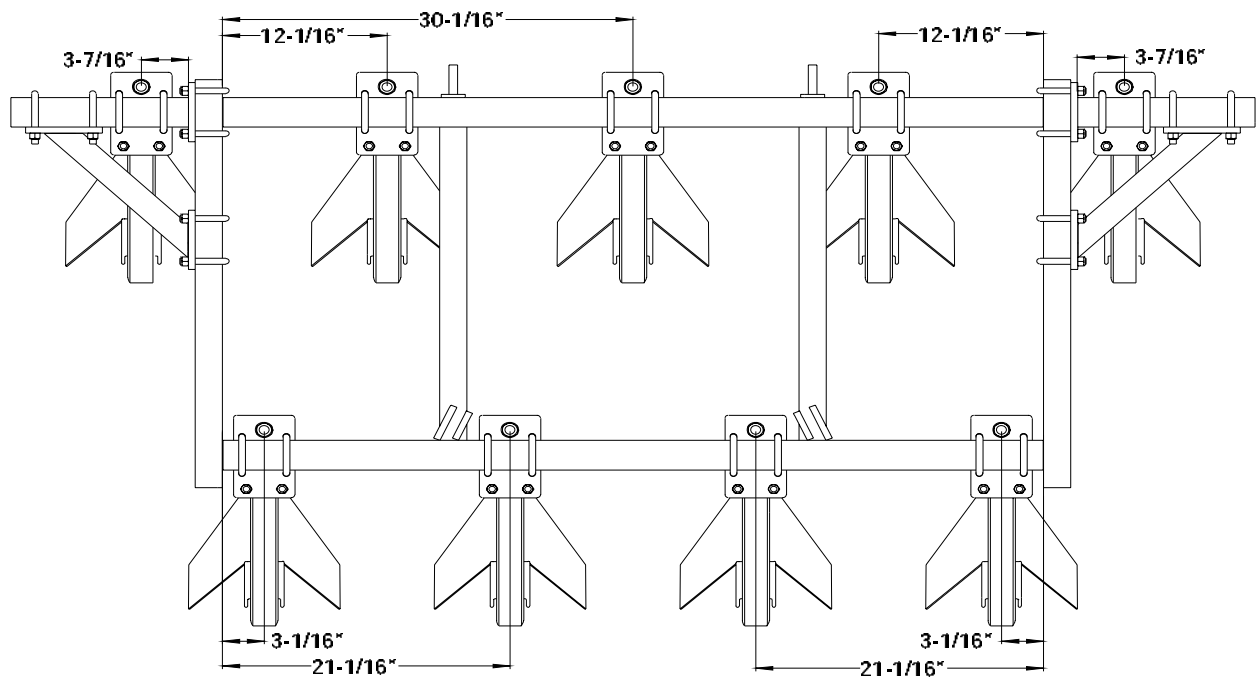

Figure 2.10 - 6.75 FT Heavy Duty Trip Layout
- 2) Refer to Figure 2.10 for placement of the angle extension stub.